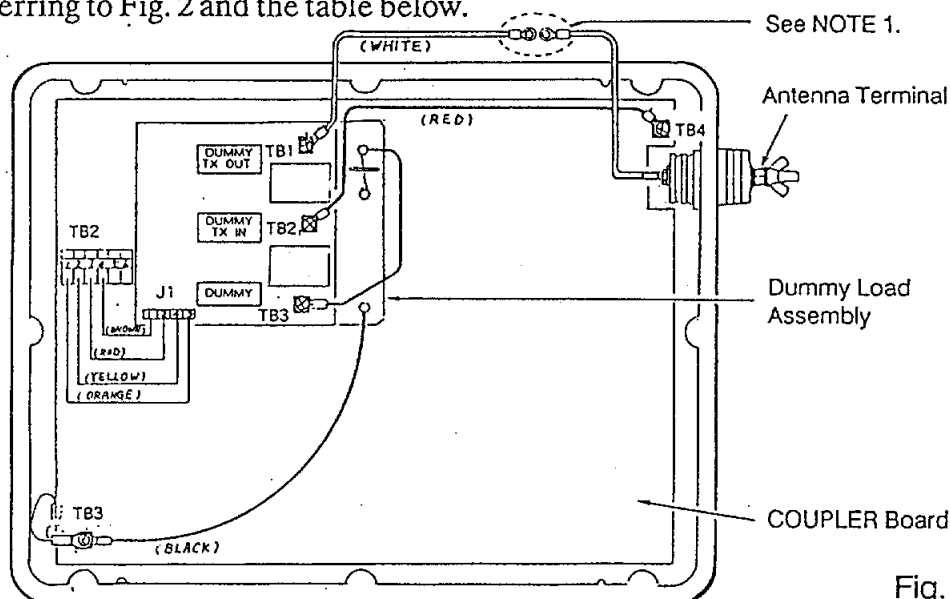

Fig. 2
7. Connect the wires of the dummy load assembly to the connectors in the antenna coupler, referring to Fig. 2 and the table below.